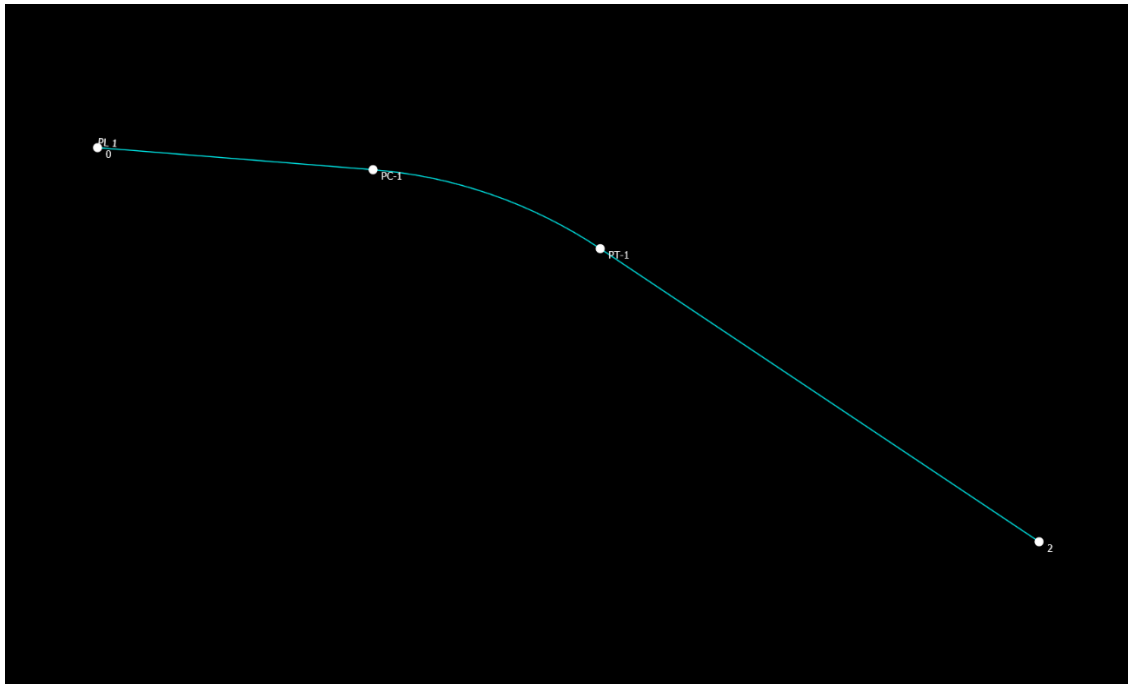

FIGURE 9-5 PIPELINES - CURVE ON MAP
Figure 9-5 shows a curve represented on a map display. Note that the curve point (PC) and the tangent point (PT) take the name of the intersection point node after a dash. In this example the intersection point is called “1”, so “PC-1” and “PT-1” are generated.